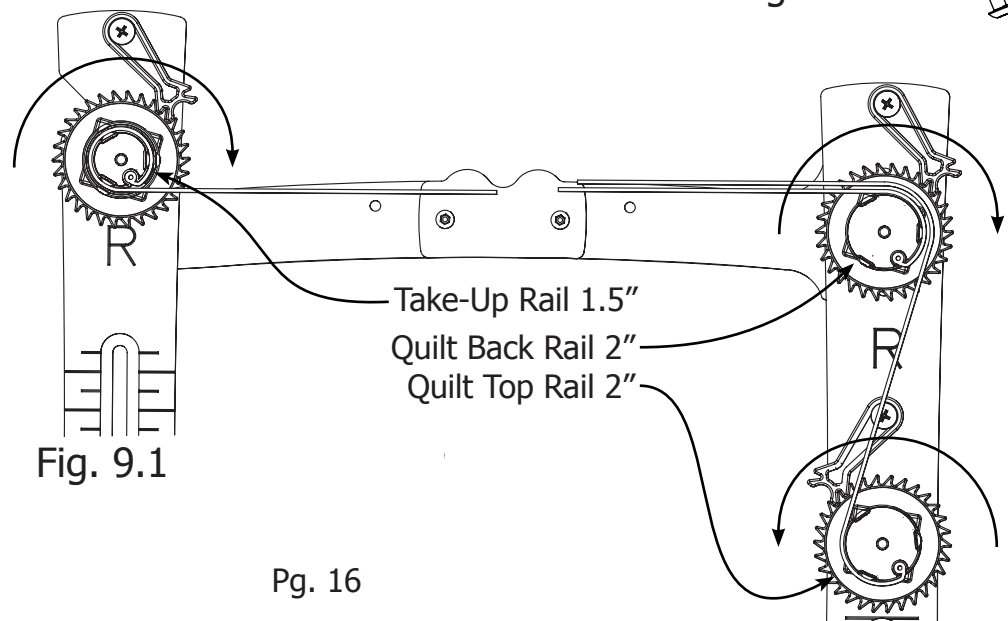

Fig. 9.1
**Step 9.1: (Quilt Back - 2 inch Rail)** Place a Ratchet Wheel onto the Square End Cap located on the end of one of the 2" rails. Make sure to have the ratchet wheel arranged as shown in Fig. 9.1 (Quilt Back). This rail will ratchet clockwise when adjusting fabric tension.
**Step 9.4: (Quilt Top - 2 inch Rail)** Place a Ratchet Wheel onto the Square End Cap on a 2" Rail. Make sure to have the Ratchet Wheel arranged as shown in Fig. 9.1 (Quilt top). This Rail will ratchet counter-clockwise.
**Step 9.7: (Take-Up Rail)** Place the remaining Ratchet Wheel onto the Square End Cap on the 1.5" Rail. Make sure to have the Ratchet Wheel arranged as shown in Fig. 9.1 (Take-Up Rail). This Rail will ratchet clockwise.
**Step 9.10:** Attach Ratchet Stops to the Right End Rail Brackets using (BB) M6 x 40mm Truss Bolts, as shown in fig. 9.10, also use Fig. 9.1 as a reference. (Finger tighten only)